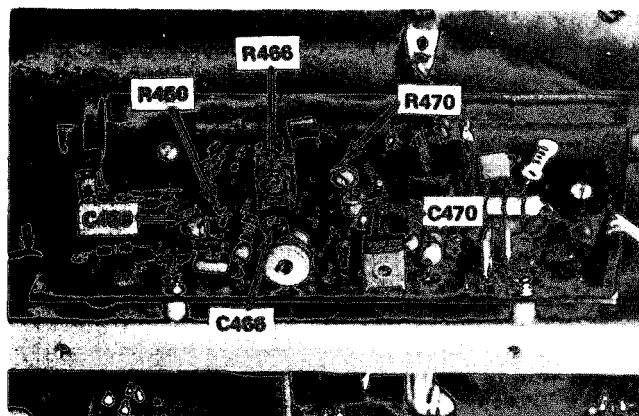

Fig. 5-16. Location of vertical output high-f frequency adjustments.
h. ADJUST—C450, R450, C466, R466, C470, R470 (see Fig. 5-16), for best flat-top waveform.